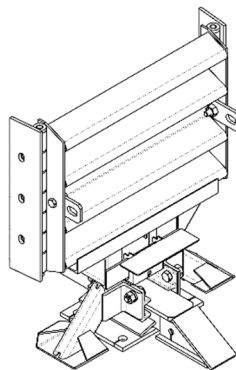

Figure 34
- 6) Remove the Nose Assembly and attach a chain to the Pullout Brackets on the first Diaphragm (Figure 34). Attach both ends of chain to a heavy vehicle (such as a 1 ton pickup).